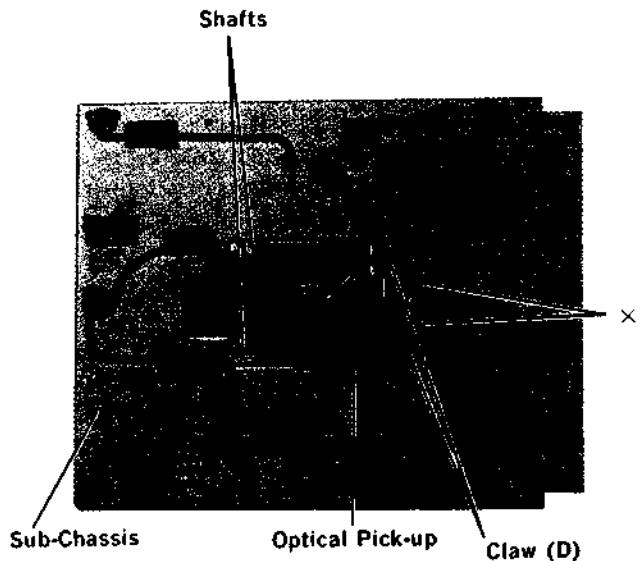

Figure 17 <17図>
- (2) While pressing two claws (D) in toward pull out two shafts in the arrow direction as shown in Figure 17.
- (2) Remove two screws marked "X" as shown in Figure 17.